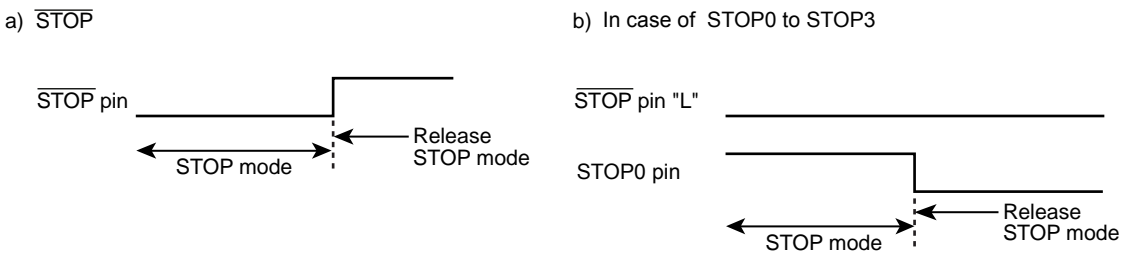

Figure 15-2 Priority of STOP pin and STOP0 to STOP3 pins
- Note 5: When the STOP mode is released by STOP0 to STOP3 pins, the level of $\overline{\text{STOP}}$ pin should hold "L" level (Figure 15-2).